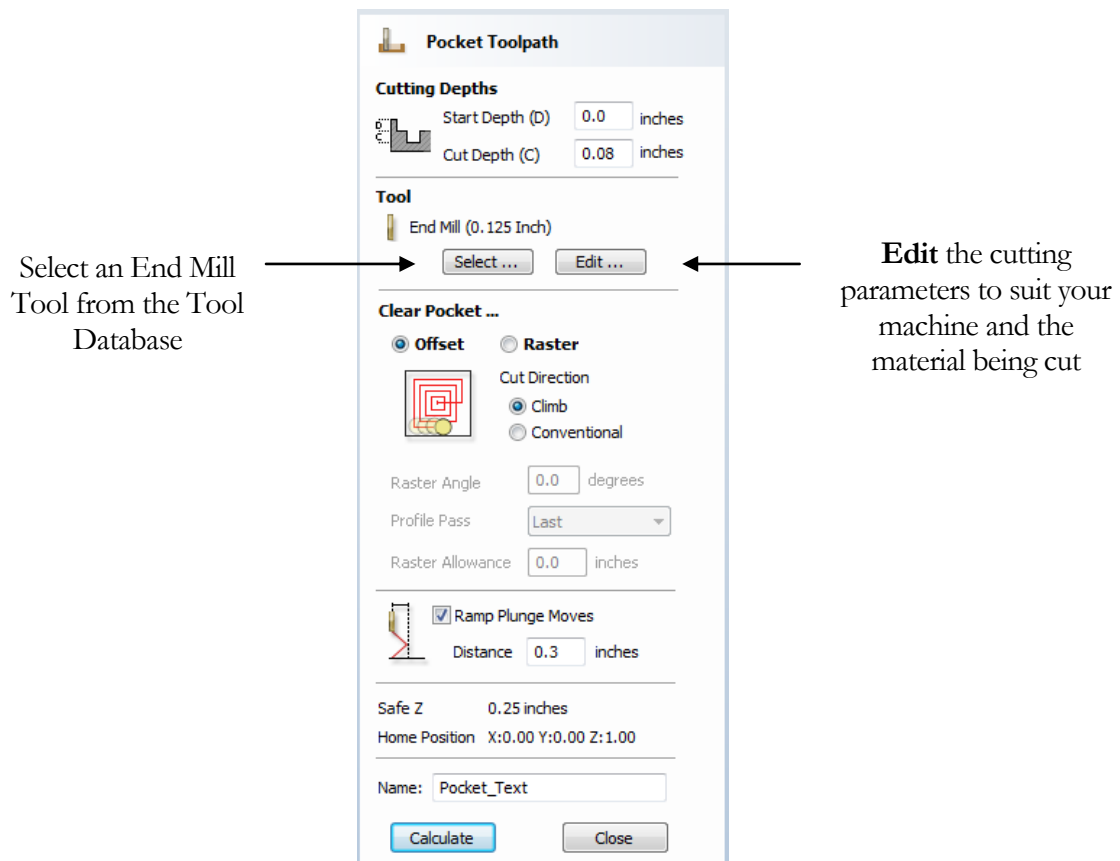

Figure 13. Pocket Toolpath parameters
10. Next, select the **Create Pocket Toolpath**  icon from the **Toolpath Operations** list and complete the form as shown below in Figure 13.